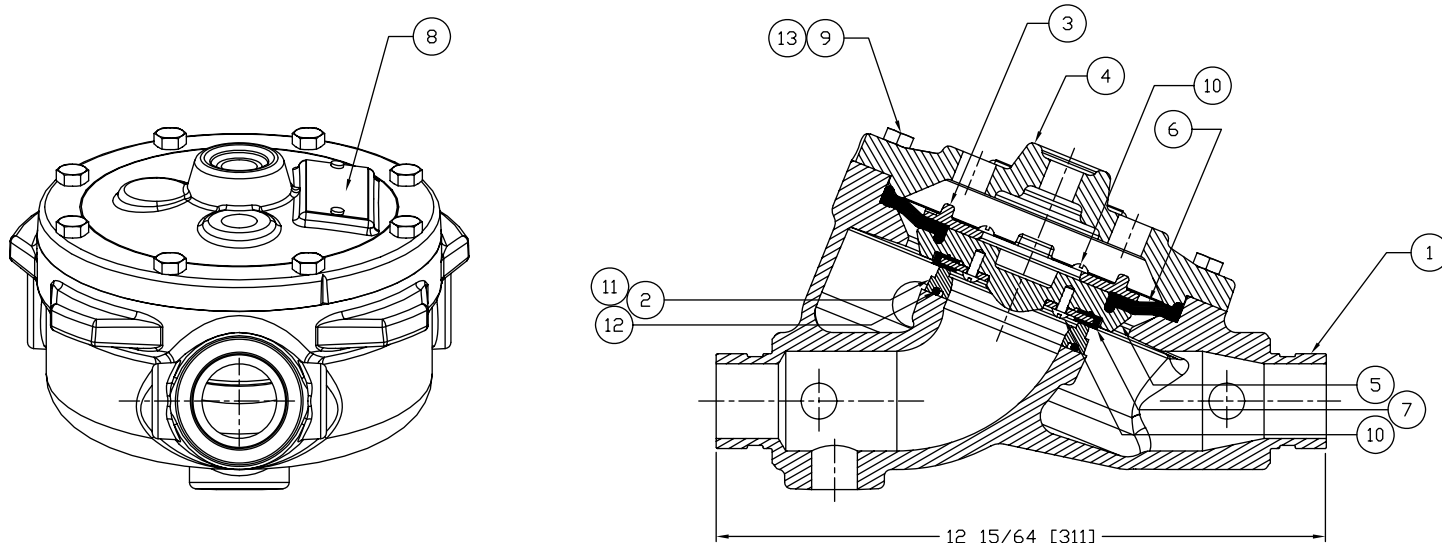

Figure 3 - Replacement Parts
D. Valve Disassembly (Refer to Figure 3)
- Remove trim as required to allow removal of cover (4).
- Remove screws (9).
- Lift cover (4) from body (1).
- Remove clapper assembly (3, 5, 6, 7, & 10) by lifting it from the body (1).
- Inspect seat (2). If replacement is necessary, remove screws (11). Remove old seat (2) and o-ring (12). Replace with new seat (2) and o-ring (12). Replace screws (11).
- To replace the diaphragm rubber (6), remove the circle of screws (10). Remove the clamp ring (3) and remove the diaphragm rubber (6).
- To replace the seat rubber assembly (7), clapper assembly (3, 5, 6, 7, & 10) must be removed from the valve. Remove the circle of screws (11). Seat rubber assembly (7) can be removed.